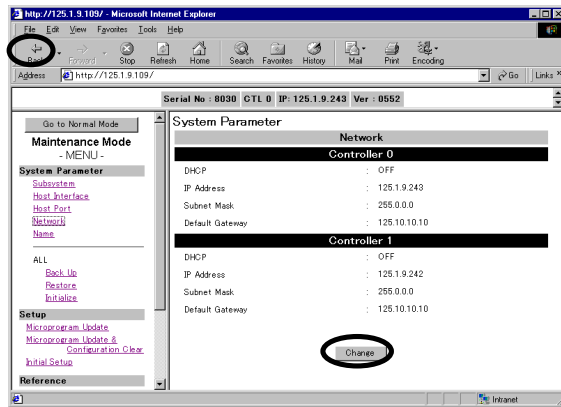

Figure 5.4 WEB Screen (3)
4. The item regarding Network is displayed. Please click [Change] for the setting. Please click [Back] of the browser for the unsetting. (see figure 5.4)